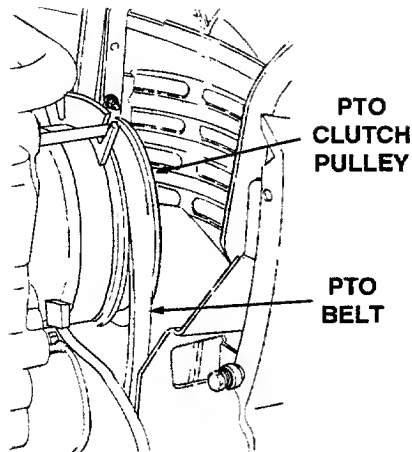

Figure 57
10. Install the forward end of the PTO belt on the PTO clutch pulley by passing the belt upward inside the front of the tractor frame. Ensure that the narrow side of the PTO belt engages the groove of the clutch pulley (Refer to Figure 57).